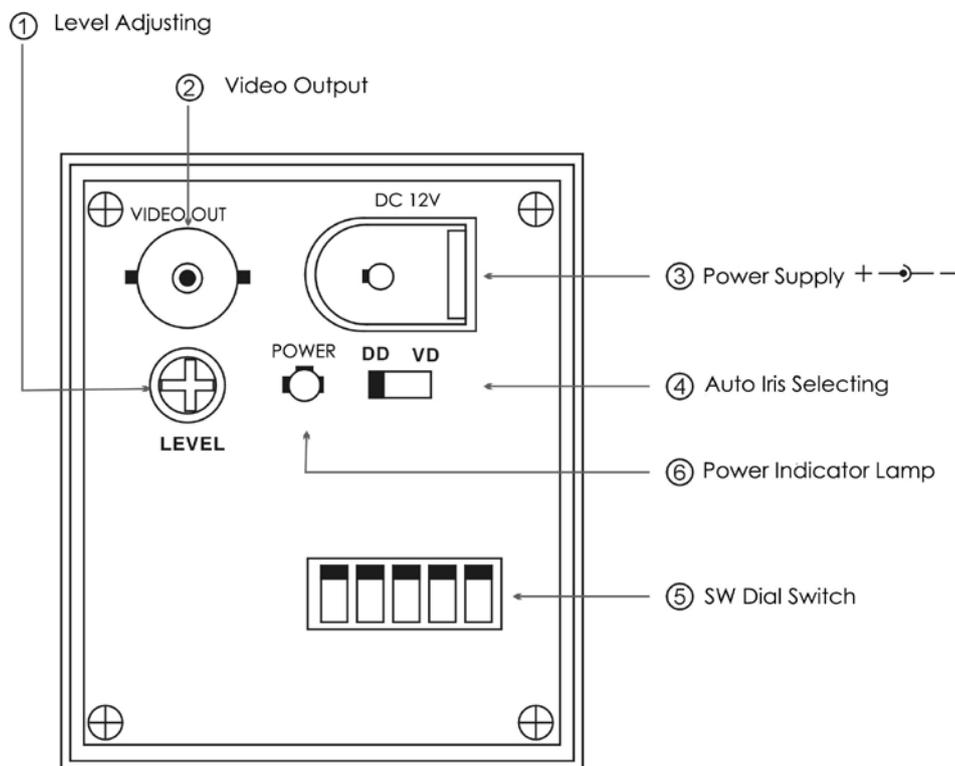

Figure 1.2 Rear Panel of Box Camera
**Note: The rear panel varies according to different models. E.g., the rear panel of DS-2CC132P(N) as shown below is different from Figure1.2.**